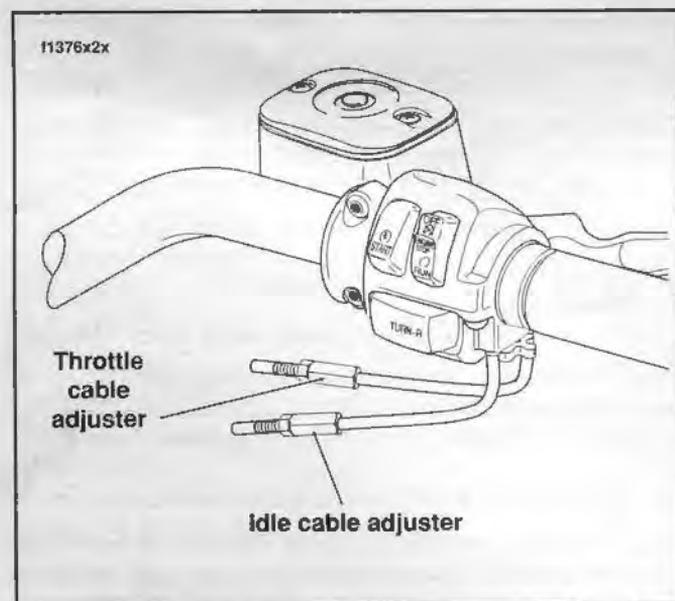

Figure 1-16. Throttle Cable Adjusters
1. See Figure 1-16. Turn the cable adjusters and jamnuts as short as they will go. Both cables should have zero adjustment at the start of this procedure.